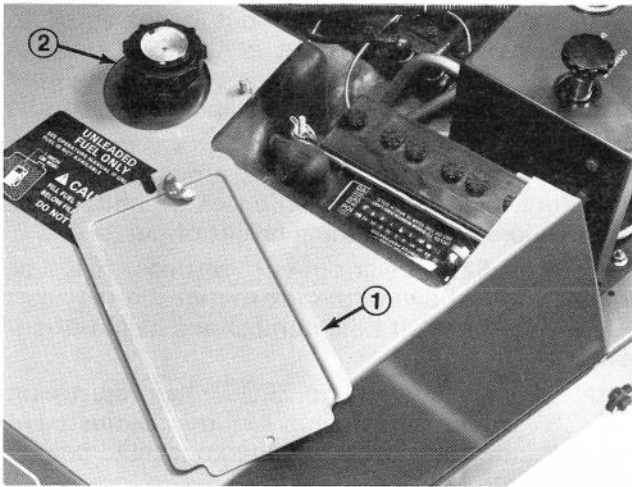

Figure 15
2. Lift engine cowl and remove cover over battery (Fig. 15).
7. Install the battery into the battery compartment with the terminal posts toward the rear of the machine (Fig. 15).